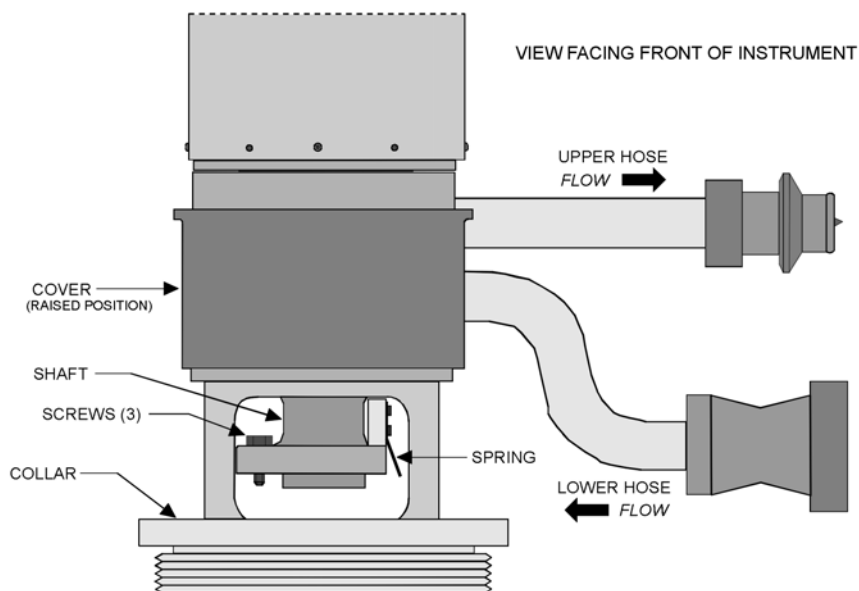

Figure 2-21. Fluid Bath 2 Lower Portion Details
Three screws fasten the rotating Shaft of the Fluid Bath (Figure 2-21) to the Test Station Motor Anvil. A threaded collar secures the Fluid Bath Body to the Test Station Motor Housing.
- Ensure that the Spring (Figure 2-21) is positioned behind the Anvil Tightening Knob on the ARES Motor. Rotate the Motor Anvil to gain access to the Anvil tightening knob then tighten the knob. A flat-head screwdriver may be used if you do not overtighten.
Connect the circulator to the bath using the supplied connectors. The lower hose on the bath is for flow into the bath (out of the circulator) and the upper hose is for flow out of the bath (Figure 2-21). The circulator should be positioned on the floor below the work area. Make sure all hoses are installed completely onto their respective hose barbs and that the hose clamps are tight. Connect cable 707-00750 between the Circulator RS-232 connector, and the Test Station Signal Panel CIRCULATOR connector.